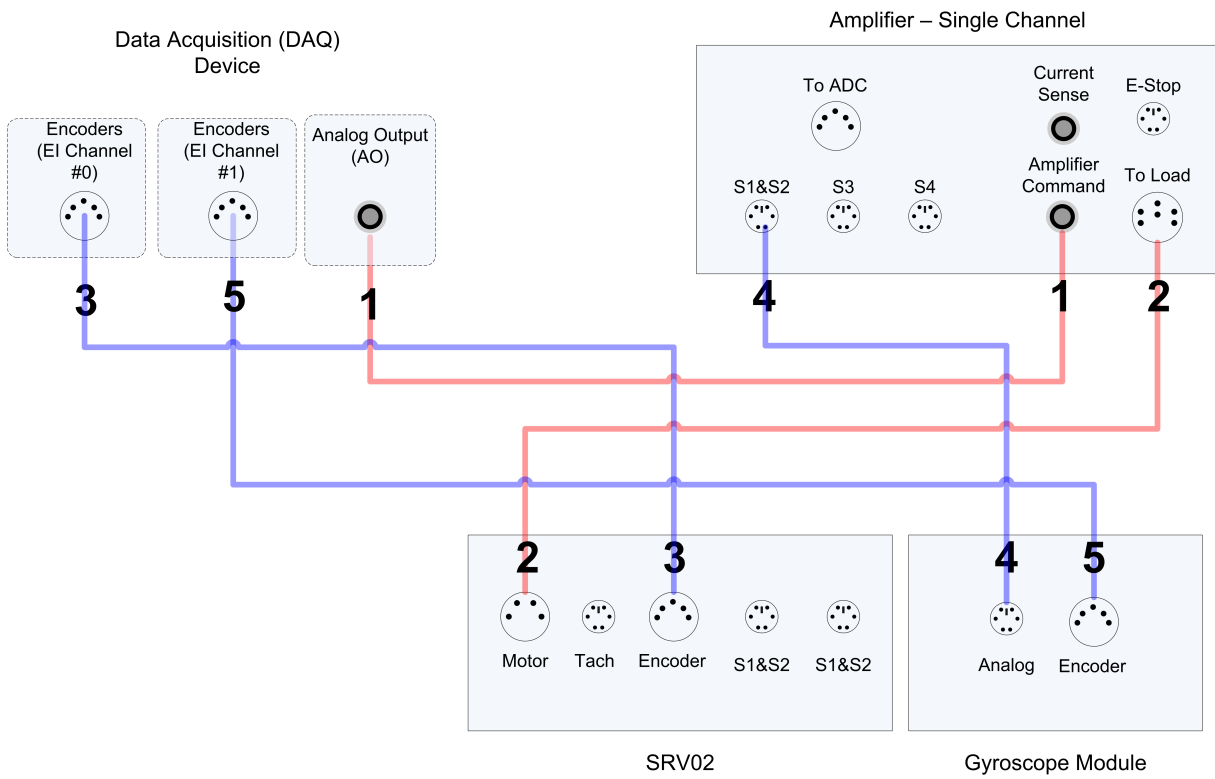

Figure 5.1: Typical SRV02 Gyroscope Connections
This section describes the typical connections used to connect the SRV02 and gyroscope module plant to a data-acquisition board and a power amplifier. The connections are described in detail in the procedure below, summarized in Table 5.2, and pictured in Figure 5.1.
Note: The wiring diagram shown in Figure 5.1 is using a two-channel data-acquisition board, which resembles a Quanser Q2-USB. The same connections can be applied for any data-acquisition system - as long as it has least two analog input, two analog output, and two encoder channels.
cable #1 shown in Figure 5.1. This carries the attenuated motor voltage control signal, V_m/K_a , where K_a is the amplifier gain.
4. Connect the 4-pin-stereo-DIN to 6-pin-stereo-DIN from the connector that is labeled *To Load* on the amplifier to the *Motor* connector on the SRV02. See connection #2 shown in Figure 5.1. The cable transmits the amplified voltage that is applied to the SRV02 motor and is denoted V_m .
5. Connect the 5-pin-stereo-DIN to 5-pin-stereo-DIN cable from the SRV02 *Encoder* connector to Encoder Input # 0 on the terminal board, as depicted by connection #3 in Figure 5.1. This carries the SRV02 output shaft angle measurement and is denoted by the variable θ and is only used for monitoring purposes in this experiment.
6. Connect the 6-pin-mini-DIN connector on the gyroscope module to the *S1 & S2* socket on the amplifier using the 6-pin-mini-DIN to 6-pin-mini-DIN cable. See connection #4 in Figure 5.1. This carries a constant voltage command to the rotor DC motor for spinning it.
7. Connect a 5-pin-stereo-DIN to 5-pin-stereo-DIN cable from the Gyroscope module *Encoder* connector to Encoder Input # 1 on the terminal board as depicted by connection # 5 in Figure 5.1. This carries the gyroscope module deflection angle.